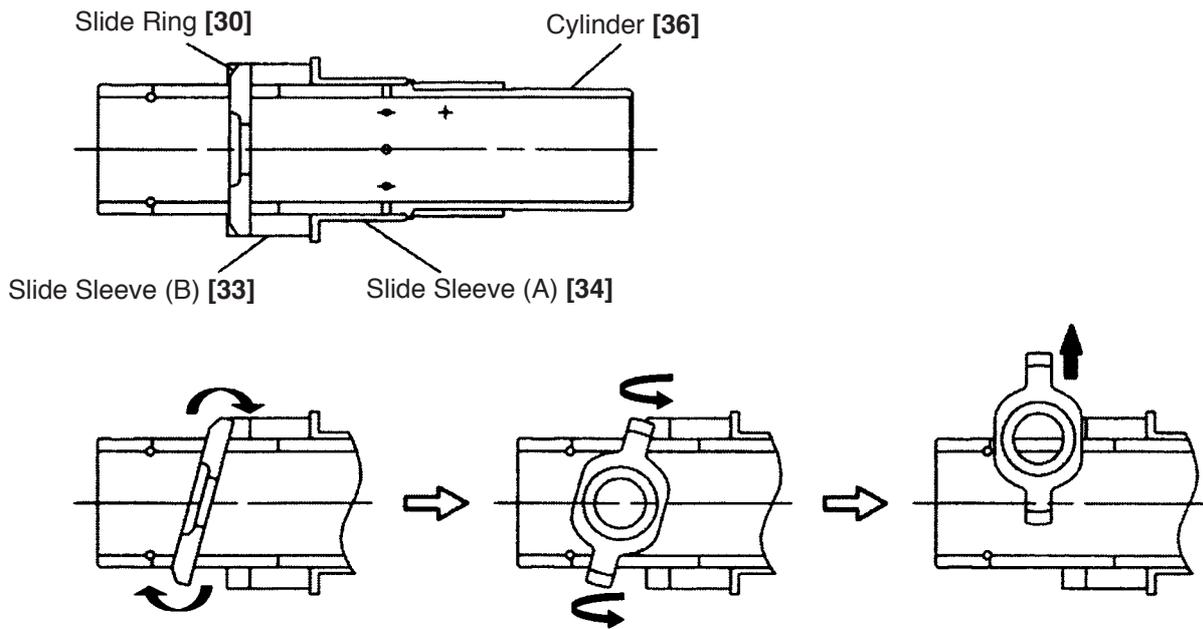

Fig. 17
(3) Removal of components in the Cylinder [36]
Remove the Retaining Ring D38 [21] with a retaining ring puller and remove Sleeve (C) [20]. Remove the four Needle Pins [19] to separate the Retainer Sleeve [18] from the Cylinder [36]. Remove the Striker [31], Second Hammer [23], Damper Holder (B) [28] and Damper (C) [29] from the inside of the Cylinder [36]. As shown in Fig. 17, move Slide Sleeve (A) [34] and Slide Sleeve (B) [33] until they contact the outside flange of the Cylinder [36]. In this condition, slightly tilt the Slide Ring [30] to the axial direction of the Cylinder [36]. Turn the Slide Ring [30] on its protrusion by 90° to remove it from the slotted hole of the Cylinder [36].